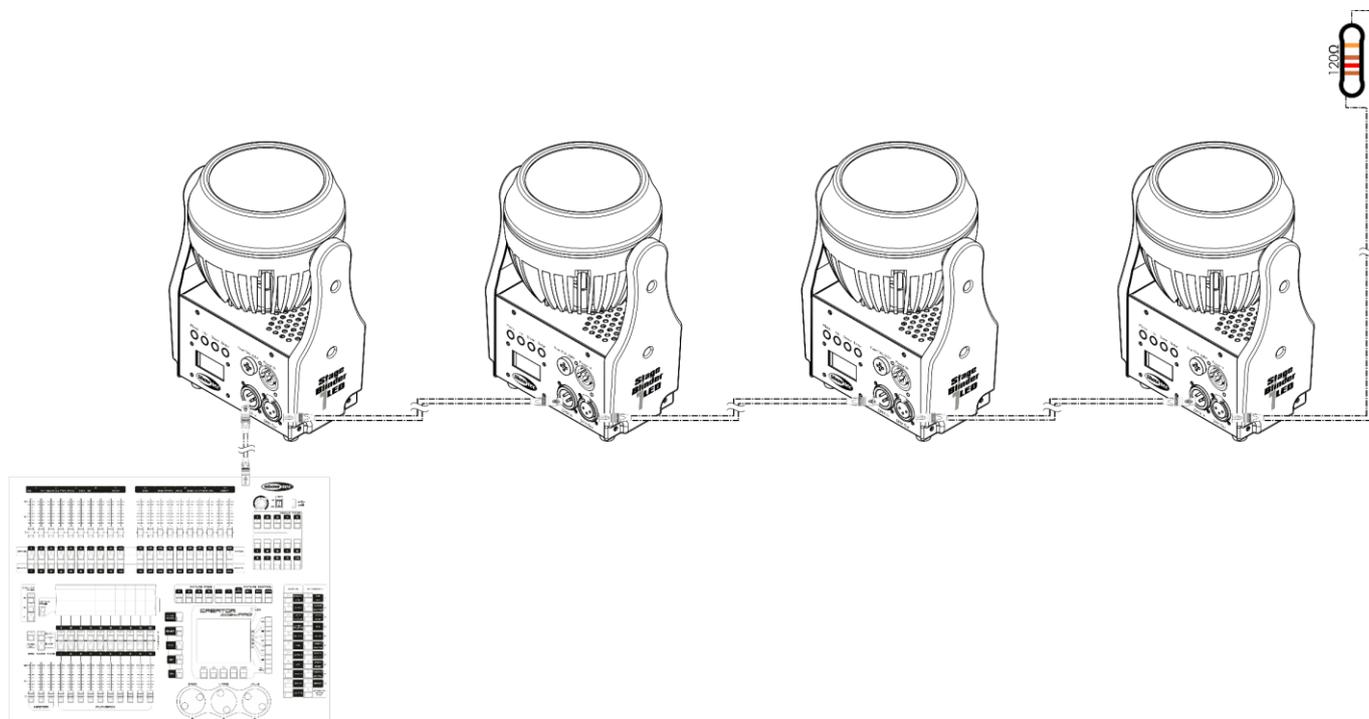

Fig. 02
- 05) Link the units as shown in Fig. 02. Connect a DMX signal cable from the first unit's DMX "out" socket to the second unit's "in" socket. Repeat this process to link the second, third and fourth units.